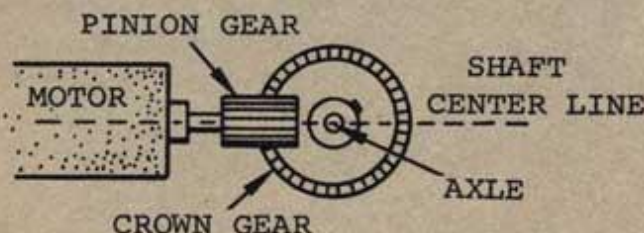

Fig. 1 - Side View
2. The motor shaft should be on a line that intersects the rear axle at dead center when viewed from the side. (See Figure 1)